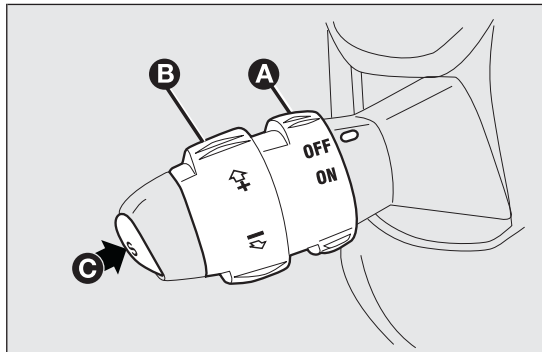

fig. 56
Turn the ring nut A fig. 56 to the ON position.
- turn ring nut A fig. 56 to ON and press the accelerator pedal so that the car reaches the desired speed;
- press button C fig. 56.
- by temporarily turning ring nut B fig. 56 to (+).
- by keeping ring nut B fig. 56 turned to (-) until the new speed is reached; it will then be memorised automatically.
Turn the ring nut A fig. 56 to OFF or turn the ignition key to STOP. The device is automatically turned off in one of the following cases:
**If the device is faulty, turn ring nut A fig. 56 to OFF, check the condition of the protective fuse and contact a Fiat Dealership.**